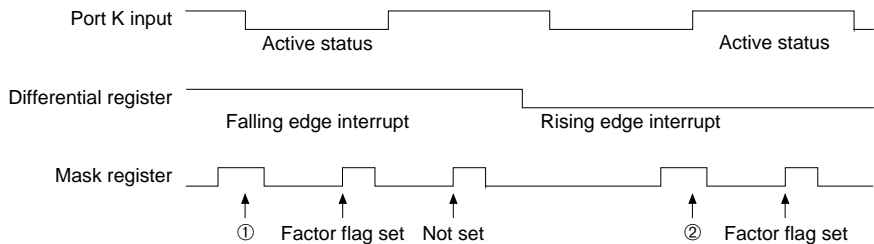

Fig. 7.1
When an interrupt is triggered at the falling edge of an input terminal, a factor flag is set with the timing of ① shown in Figure 7.1.
When an interrupt is triggered at the rising edge of the input terminal, a factor flag will be set at the timing of ② shown in Figure 7.1. In this case, when the mask registers cleared, then set, you should set the mask register, when the input terminal is in the Low status.